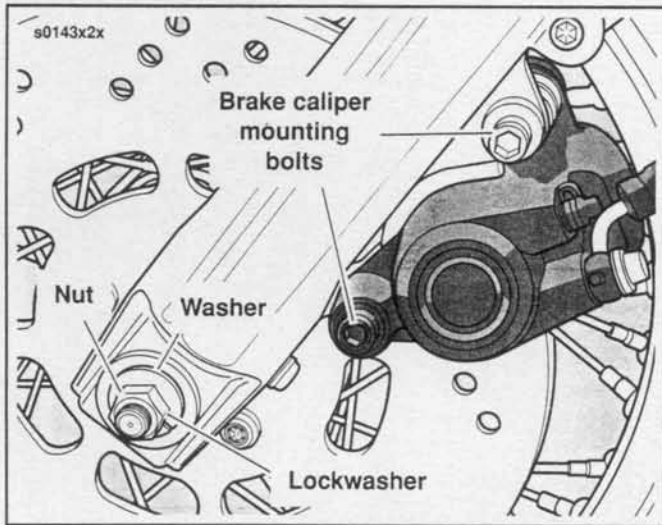

Figure 2-1. Front Wheel Mounting (left side FXSTC shown)
2. See Figure 2-1. Remove brake caliper(s) and let caliper(s) hang loose. Use care not to scratch the fender paint.